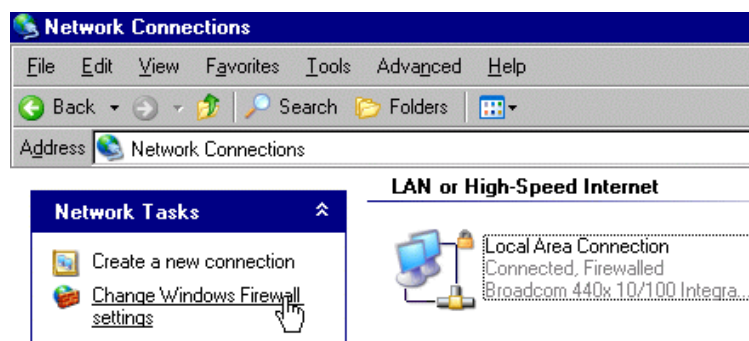

Fig. 2. Change the Firewall Settings.
1. From the Windows Control Panel, access the **Windows Firewall** entry. Depending on the appearance of your Control Panel, there are two ways to do this. Either open the **Windows Firewall** item (if displayed); or open the **Network Connections** item then choose **Change Windows Firewall Settings**, as illustrated in Fig. 2. This will open the Windows Firewall dialog.